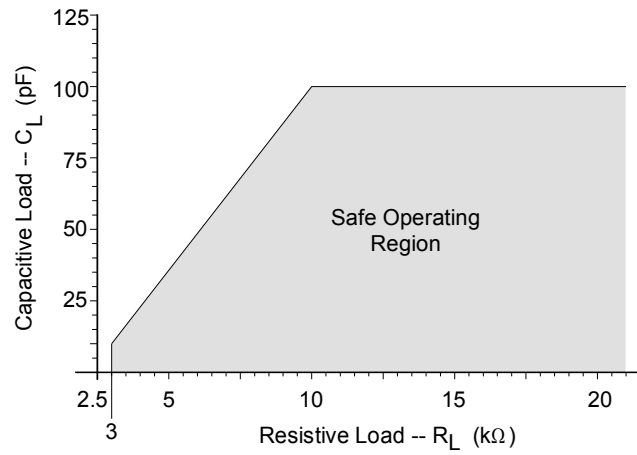

Figure 2. Maximum DAC Loading
6. Guaranteed by design. See Figure 2.  $R_L$  and  $C_L$  reflect the recommended minimum resistance and maximum capacitance required for the internal op-amp's stability.  $C_L$  affects the dominant pole of the internal output amp; increasing  $C_L$  beyond 100 pF can cause the internal op-amp to become unstable.